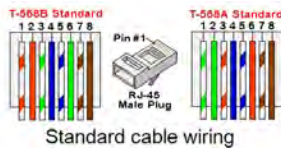

Figure 18: Standard cable wiring
- c. Insert the eight wires into an RJ45 connector (see *Figure 18*).
7. For the switch/router side, use a pre-terminated cable or use a crimper to prepare an RJ45 communication connector: Insert the eight wires into the RJ45 connector in the same order as above (see *Figure 18*).